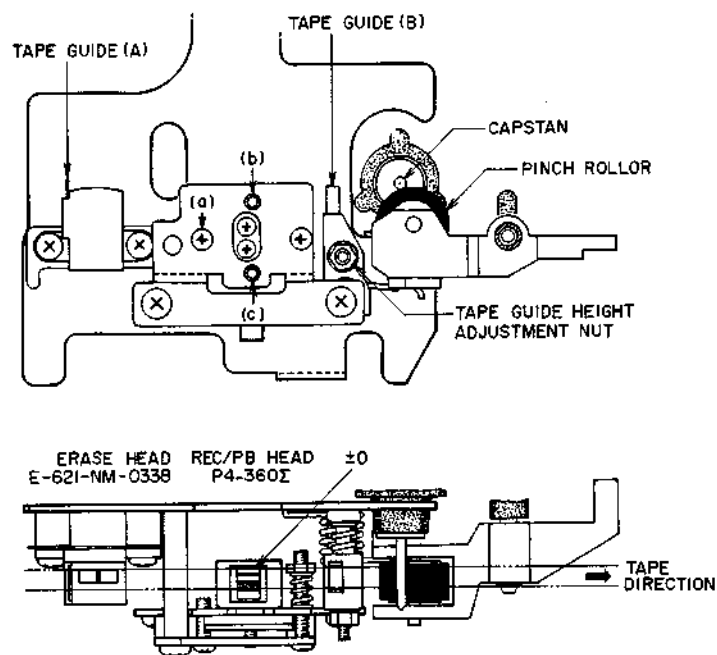

Fig. 13 Head Adjustment (GXC-704D)
(Refer to Figs. 13, 14)
- b) At playback mode, using the Tape guide (A) shown in Fig. 13 as standard for height, adjust tape guide (B) height with tape guide height adjustment nut so that the tape runs smoothly and does not catch on the tape guides.
- b) As shown in Fig. 13, adjust head height with
3) Recording/Playback Head Azimuth Alignment Adjustment (Refer to Fig. 13)